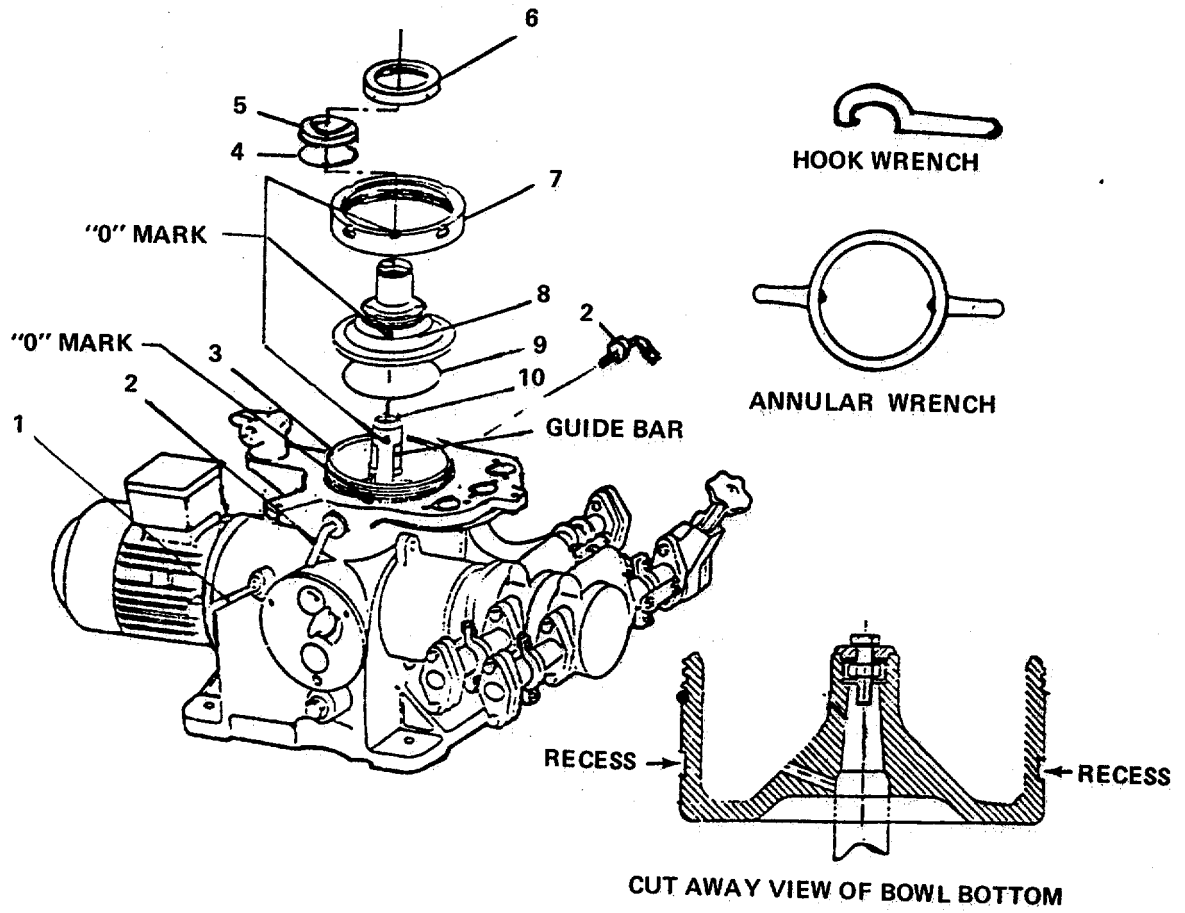

FIGURE 4-2. Bowl (Top) Assembly.
- o. Install link (15).
- p. Install screw (14) and secure link to motor.
- q. Install gasket (15) and plug (13) on terminal box (1).
- s. Install four machine screws (2).
- t. Install terminal board (3) in terminal box (1) and attach to link (15). Secure to terminal box with two screws (4).
- u. Install terminal clips (11, 10), lockwasher (9) and secure with screw (8).
- v. Install gasket (5) and cover (6).
- w. Install four machine screws (7) and secure cover to terminal box.
**4-13. Repair Bowl Assembly. (Figure 4-2)**